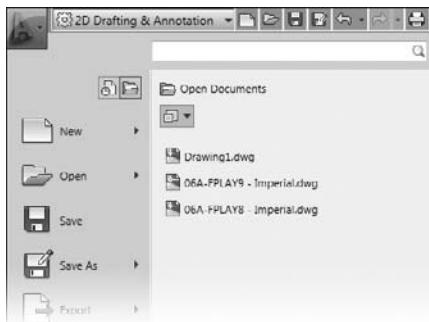

FIGURE 1.33 Displaying the open drawings in the Application menu
2. Open the Application menu, and then click the Open Documents option at the top of the left pane. The open drawings are displayed in the right pane, as shown in Figure 1.33.